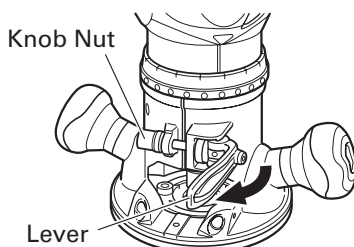

Fig. 6
- (3) Clamp the lever down until the point where a click can be felt. (Fig. 6)